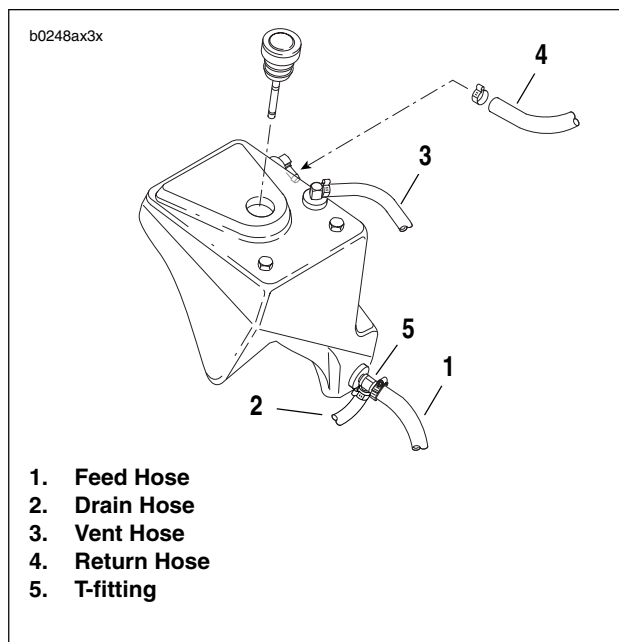

Figure 3-47. Oil Tank Hoses
See Figure 3-47. The oil tank has three fittings. From the top of the tank, the vent hose (3) and the return hose (4) run downward below the battery tray. Cable straps secure the hoses in place.